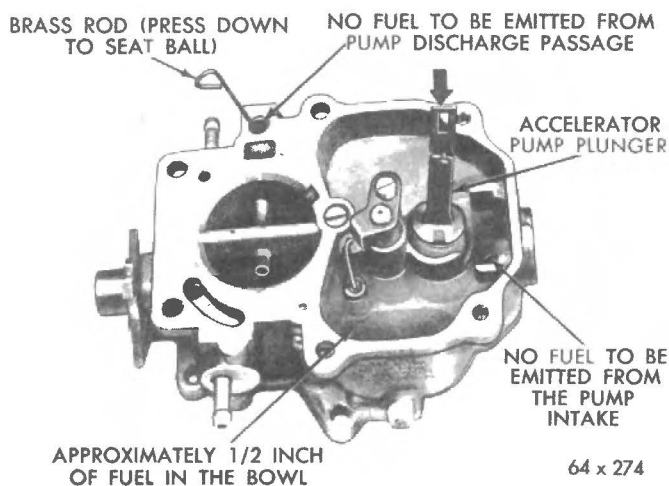

Fig. 10 - Testing Accelerator Pump Intake and Discharge Check Balls.
(3) Using a small clean brass rod, hold the discharge check ball down firmly on its seat. Again raise the plunger and press downward. No fuel should be emitted from either the intake or discharge passage, as shown in Fig. 10.